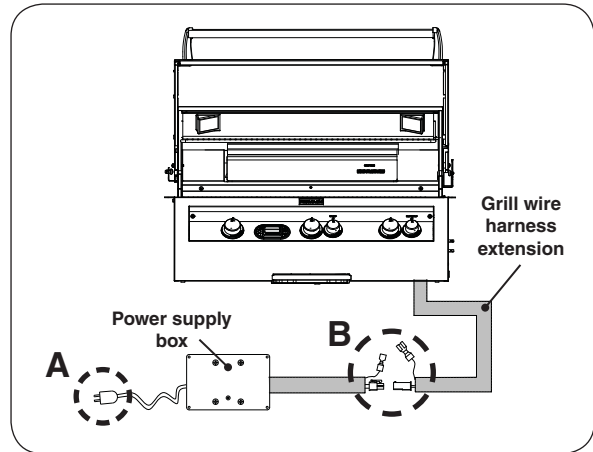

Fig. 20-2 Disconnect grill connections
- Locate the power supply box inside of the island enclosure and disconnect the power cord (See Fig. 20-2, **A**).
- Disconnect the grill wire harness extension connectors from the power supply connectors. See Fig. 20-2, (**B**)